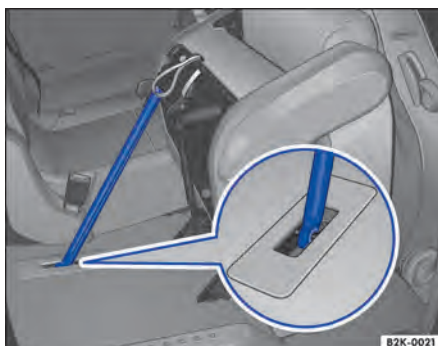

Fig. 67 Second row of seats: secure the seat folded forward with the rod.
3. Release the securing rod from the bracket and push the rod firmly into the seat anchoring until the securing rod engages → Fig. 67.